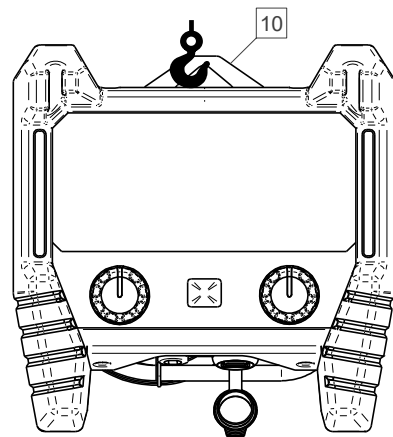

Figure 6
- Bracket [10], which is used to suspend the RC device (Figure 6).